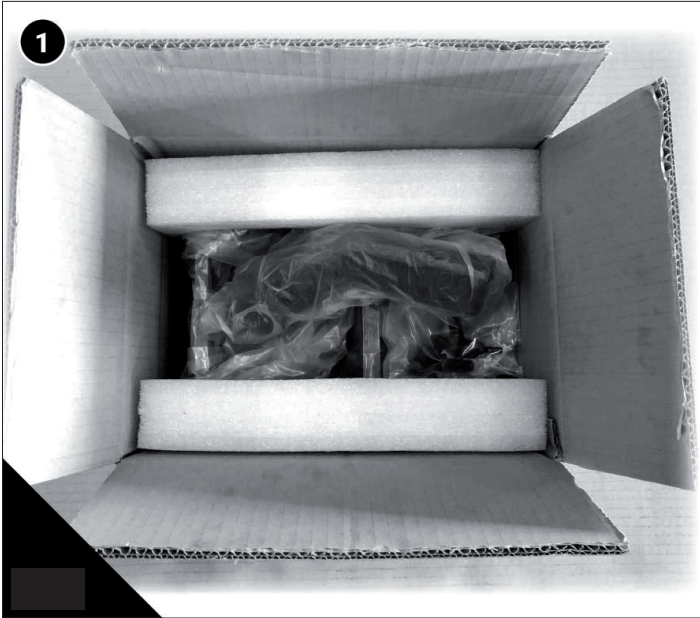

Fig. 17
Fig. 17: Unpacking Revo 1216 Expansion Set 254 mm. (1) Delivery contents. (2) Components unpacked. (2.1) Extension Bed 254 mm. (2.2) Toolrest Extension. (2.3) Extension Bed Bolts. (2.4) Lock Handle. (2.5) Outboard Adapter.
Fig. 17 - Fig. 19: Unpacking Revo 1216 Expansion Set 254 mm. (1) Delivery contents. (2) Components unpacked. (2.1) Extension Bed 254 mm. (2.2) Toolrest Extension. (2.3) Extension Bed Bolts. (2.4) Lock Handle. (2.5) Outboard Adapter.
5. Identify the correct orientation of the tool rack (Key 3). The lip of the rack should not be visible. In Fig. 17 the shelf is upside down. A properly installed rack should have the largest hole (faceplate storage) on the furthest left and towards the operator.